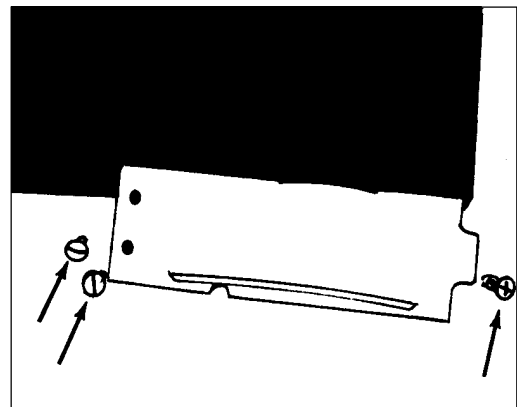

Figure 20
11. Remove the three screws that hold the belt guard. See figure 20.